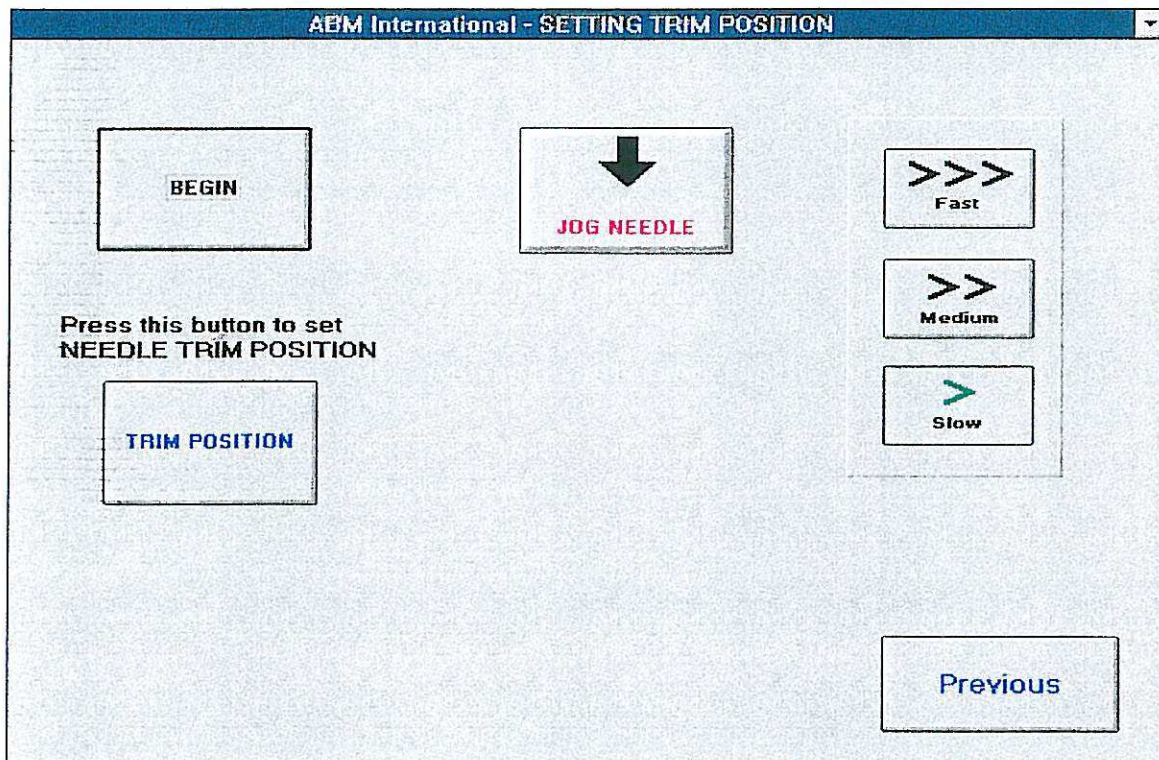

Figure 4.20
- A. Press the "Set trim position" key and a set trim position screen will appear. See Figure 4.20.